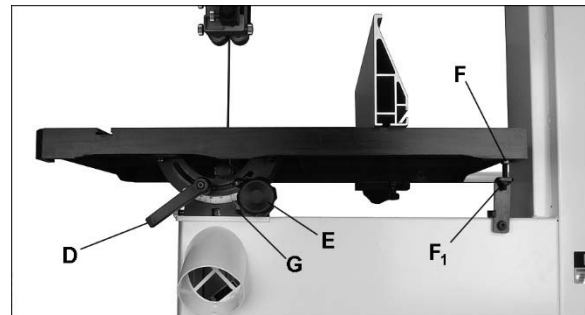

Figure 7-4
Refer to Figure 7-4.
Note: Table stop bolt (F, Figure 7-4) must be pivoted out of the way to tilt table to the left.
1. Loosen lock handle (D, Figure 7-4) and use knob (E) to tilt table until it rests against table stop bolt (F). Retighten lock handle.